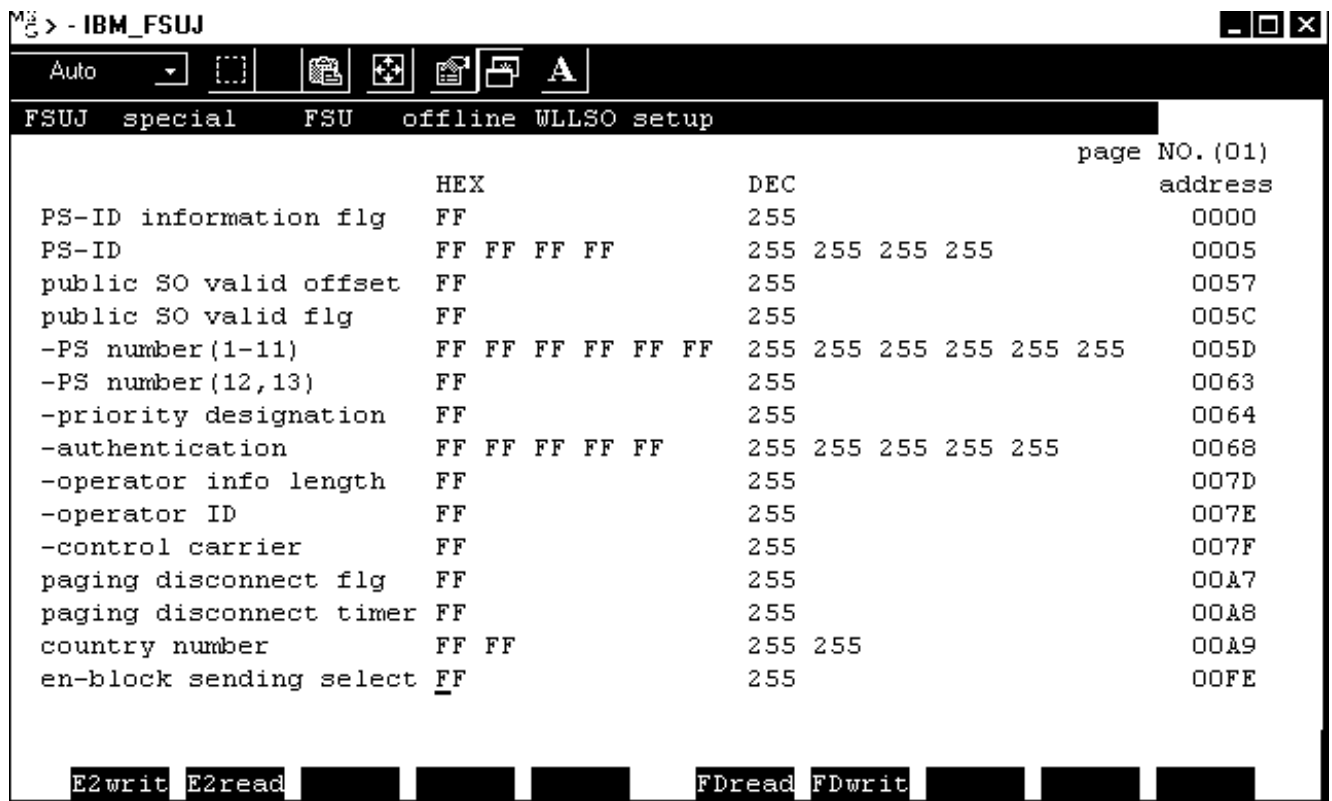

Figure 4-3 : WLLSO Setup Screen Without Configuration Data
5. Use the $\downarrow$ key to move the cursor to the **WLLSO Setup** option and press the Enter $\downarrow$ key. This displays a WLLSO Setup screen similar to the one shown in Figure 4-3.